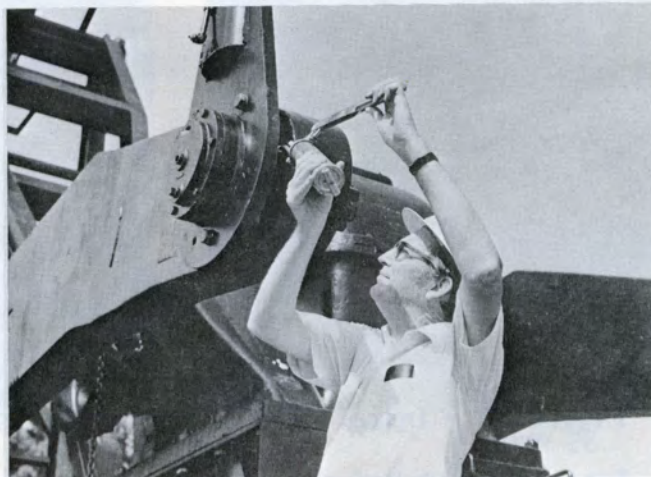

Figure 33
29. Figure 33 - Grease Crank Pin Bearings